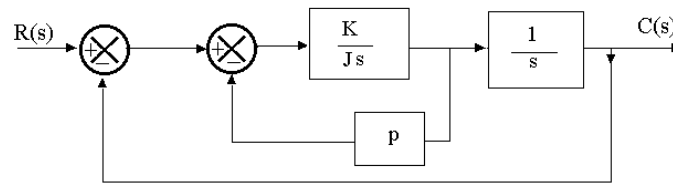

Fig. 2
- Q. 20** Determine the values of K and p of the closed-loop system shown in Fig.2 so that the maximum overshoot in Unit Step response is 25% and the peak time is 2 seconds. Assume that $J=1 \text{ Kg-m}^2$. (14)